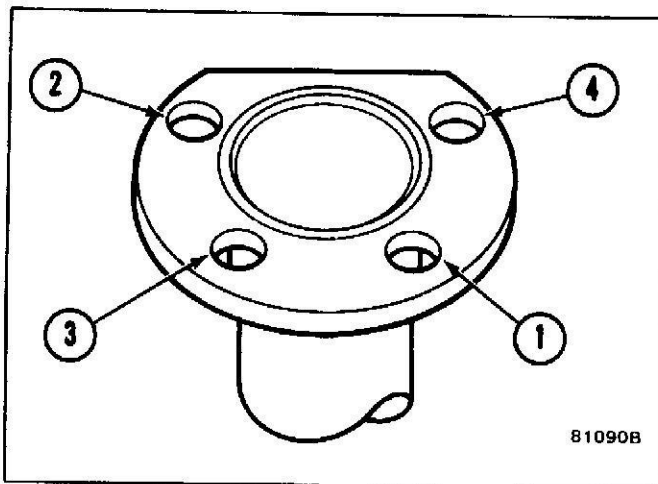

Fig. 5 Axle Tube Flange Bolt and Nut Tightening Sequence
(5) Tighten all nuts alternately and evenly in a cross pattern (Fig. 5) to approximately 15 foot-pounds (20 N.m.) torque to seal and cup rib ring evenly in axle tube.
(6) Tighten nuts to final torque of 50 foot-pounds (68 N.m) torque in a cross pattern (Fig. 5).
(7) Install rear brake drum, locknuts and wheels. Tighten rear wheel nuts to 72 foot-pounds (98 N.m.) torque.
(8) Remove supports and lower vehicle.